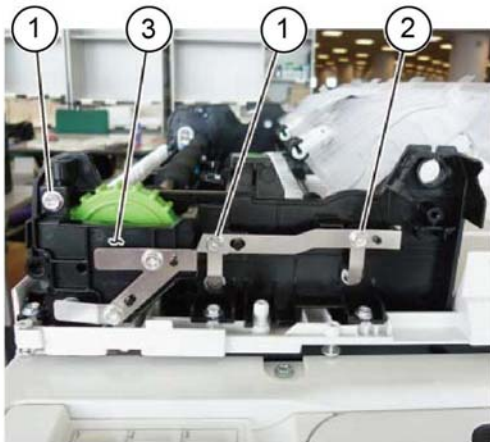

Figure 5 Front bracket removal
12. Remove the front bracket and ground roll plate, **Figure 5**:
- a. Remove two screws (1).
- b. Loosen the screw (2).
- c. Remove the front bracket and ground roll plate (3).